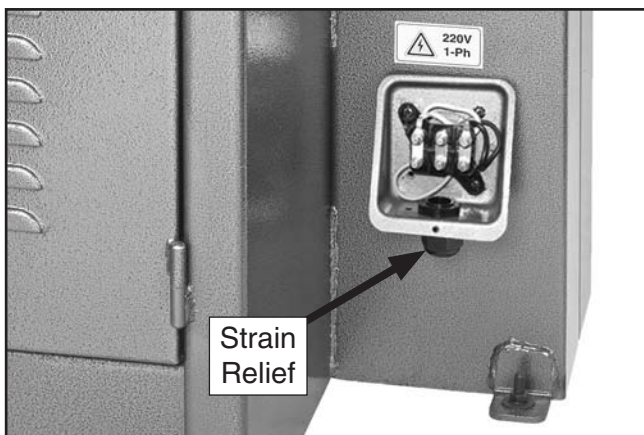

Figure 6. Power connection junction box opened.
1. Open the power connection junction box on the rear of the machine (see **Figure 6**).